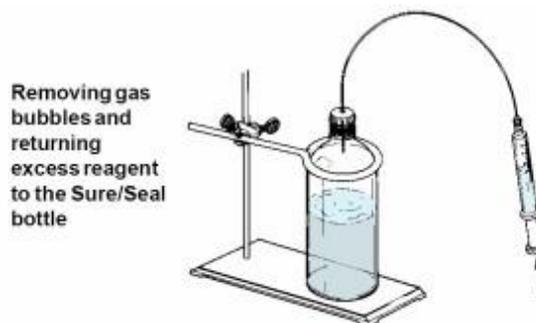

Fig. 2B Removing gas bubbles and returning excess reagent to the Sure/Seal bottle
- Let nitrogen pressure push the plunger to reduce bubbles. Excess reagent and entrained bubbles are then forced back into the reagent bottle as shown in Fig. 2B.